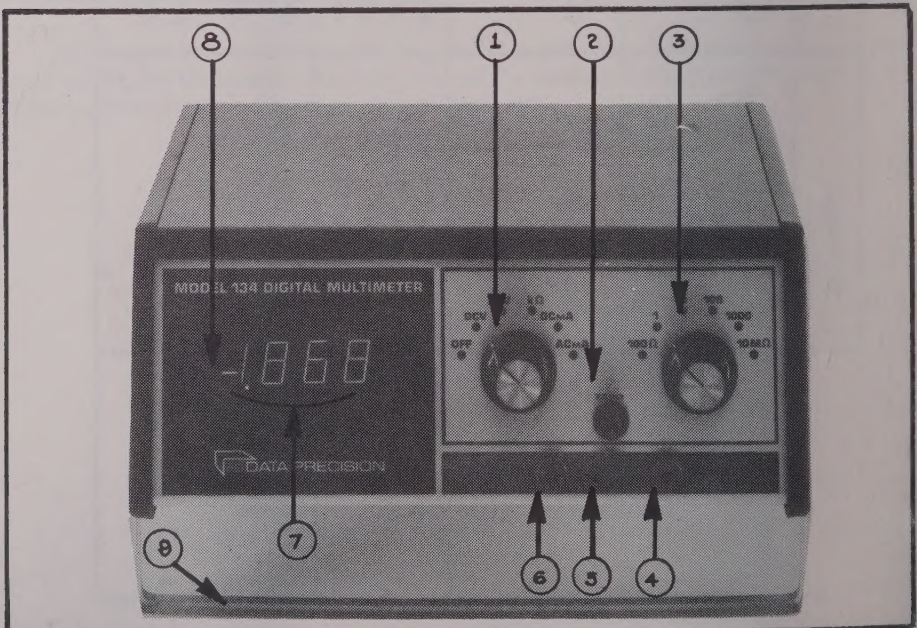

Figure 2-1. Front Panel Controls and Indicators
2.2.1 Front Panel (See Figure 2-1)